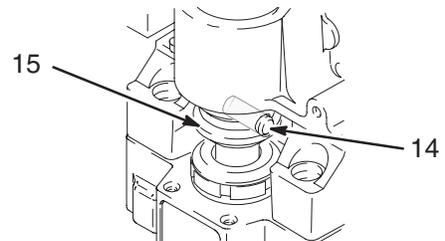

Fig. 19
1. Try to stop pump with piston rod (222) in lowest position. To lower piston rod manually, remove shroud (32) and rotate motor fan blades. Use a screwdriver to push retaining spring (15) up and push out pin (14). See Fig. 19.
3. Remove motor shield (32).